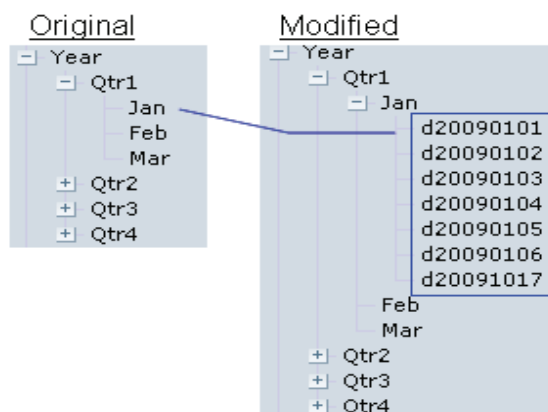

Figure 4
Step 2 - Update “Year” dimension to include specific date/time members. The “Year” dimension in “Sample Basic” only goes to the month level. Our requirement is to go to the day level. No problem... simply add dates as children of the month member. (Figure 4)